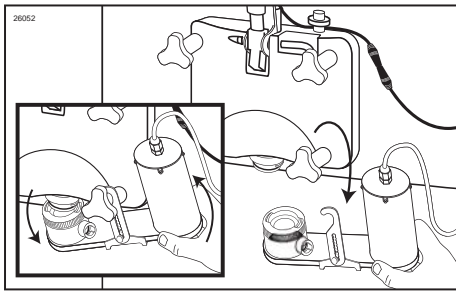

Figure 25
5. Lift the Suspension Bracket with the Injector Assembly from the freezer door knob. (See Figure 25.)